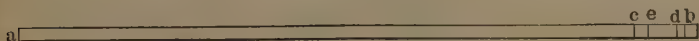

Fig. 266. Thickness Gage.
A. By marking on a smooth slat, Fig. 266, the distance $a b$